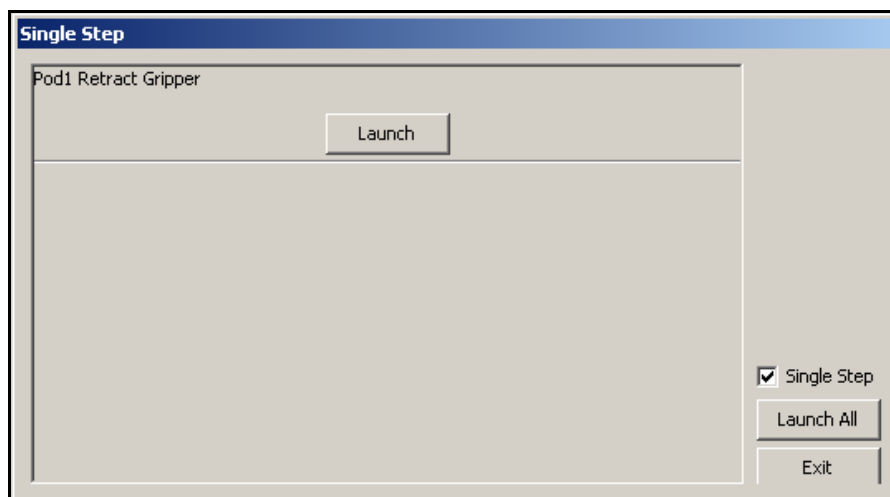

Figure 2-21. Single Step with next operation launched
3. Under **Prepare to load tips**, choose **Launch**. The next operation is launched (Figure 2-21).